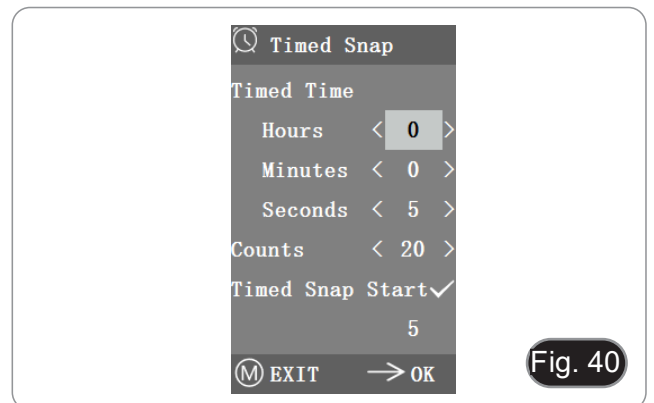

Fig. 40
2. At this point, the number jumps below. This is the number of photos that have been successfully taken so far. (Fig. 40)